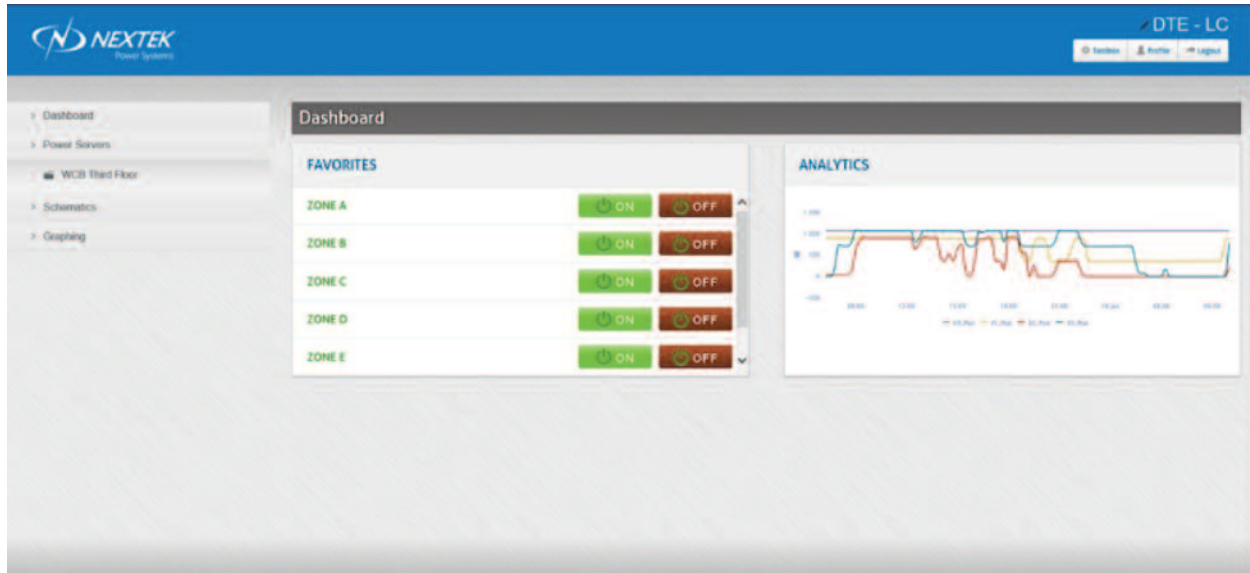

Figure 4
9.5.5 The PSMs are placed in the Power Servers dropdown on the left side of the page, and in the folder labeled WCB Third Floor (shown in Figure 4).